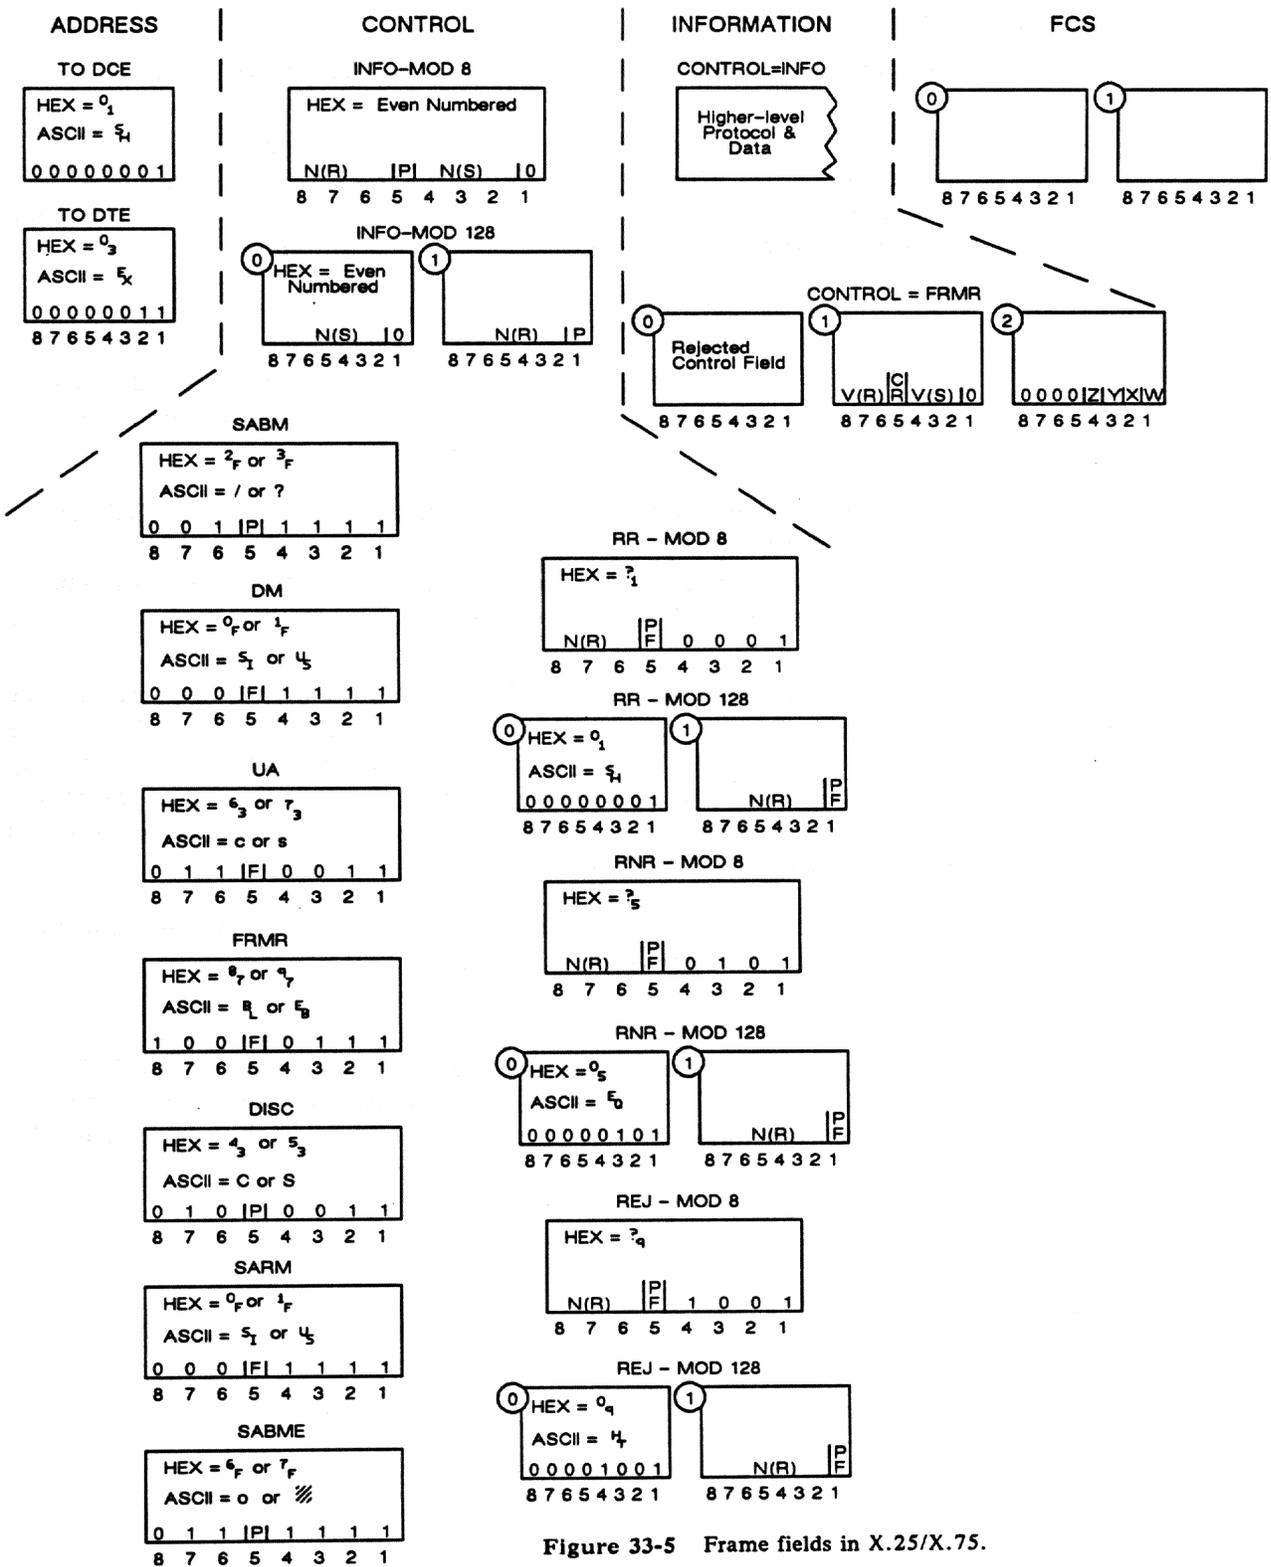

Figure 33-5 Frame fields in X.25/X.75.
MOD 8 uses sequence numbers 0-7. MOD 128 adds an extra byte to the control field in INFO, RR, RNR, REJ, and SREJ frames. See Figure 33-5. This extra byte allows sequence numbers in a range of 0-127.
2. *Address.* The address octet (see Figure 33-5) is given in the **ADDR** column, with its two hexadecimal quartets presented as full-size alphanumerics. The address may be 0_1 or 0_3 in single-link operation.
3. *Type.* The mnemonic (abbreviated) names for eleven frame types as they appear in the **TYPE** column of the protocol trace are shown in Figure 33-5 under "CONTROL." The control field, therefore, indicates the frame type. If a control octet does not fit any of the patterns in the figure, the frame is listed in the **TYPE** column as UNKWN followed by the hexadecimal value of the control byte: UNKWN=F3.
4. *N(R) and N(S).* One column on the frame-level trace is devoted to N(R) values, and one column to N(S). The frame types that include N(R) or N(S) fields in their control fields are indicated in Figure 33-5. N(R) and N(S) occupy three bits each in modulo 8, seven bits each in modulo 128.
5. *P and F.* The status of the poll or the final bit is given in the P/F column. Whether this bit is the P or F bit is indicated for most frame types in Figure 33-5 (under "CONTROL").
1. *Info frames.* INFO frames differ for MOD 8 and MOD 128 numbering schemes. (See Figure 33-5.) For spreadsheet conditions to match I-frames accurately, the correct numbering system ("Mode of Operation") should be selected on the Frame Level Setup screen.
2. *Supervisory frames.* The four supervisory-frame types that can be searched for on the data leads are RR (Receive Ready), RNR (Receive Not Ready), REJect, and SREJ (Selective Reject). These frames always contain N(R) fields (see Figure 33-5) and serve mainly to acknowledge or reject INFO frames.